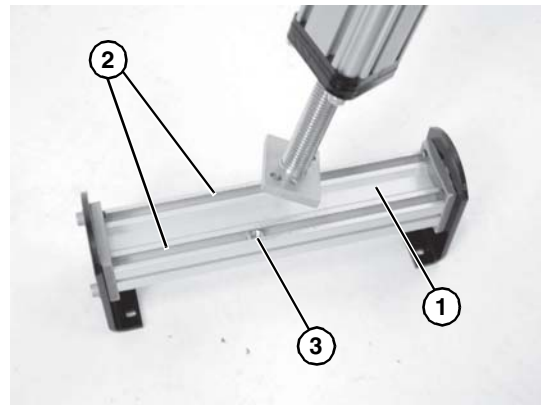

Figure 14
- Position the conveyor mounting bracket and crossmember tube assembly (**Figure 14, item 1**) so there is access to the underside t-slots (**Figure 14, item 2**) and hex nuts (**Figure 14, item 3**).
11. To center the conveyor mounting bracket (**Figure 14, item 3**), position the “Attach Here” sticker (**Figure 16, item 1**) with the end plate (**Figure 16, item 2**) of the stand top screw assembly.